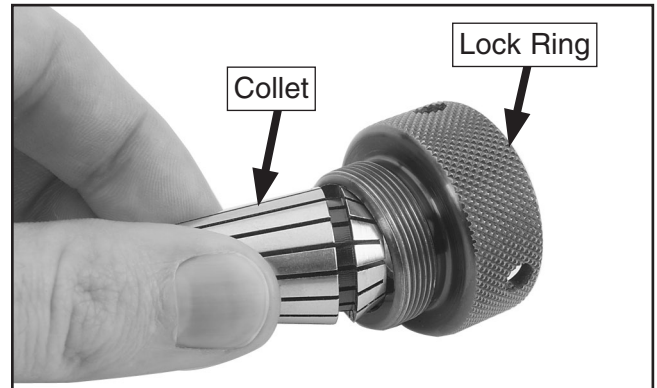

Figure 9. Inserting collet into lock ring.
2. Insert the collet at a slight angle into the lock ring, as shown in **Figure 9**.